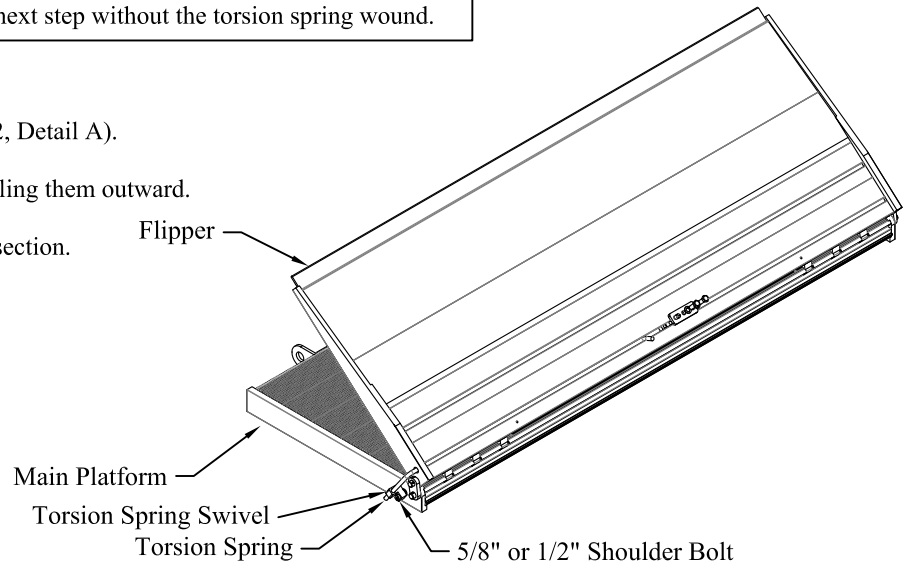

Figure 1: 60" EA Platform.
1. **RELIEVE** the spring tension by rotating the flipper to roughly the position shown (Figure 1).
3. **REMOVE** the 5/8" or 1/2" shoulder bolt from the torsion spring swivel on the drivers side (Figure 1).
4. **UNFOLD** the flipper (Figure 1).